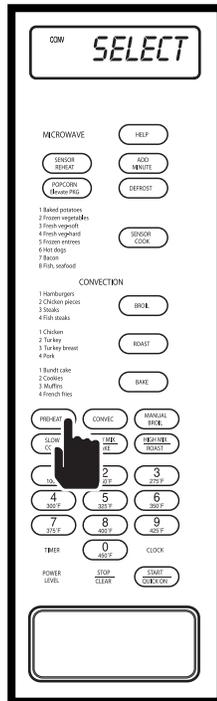

Figure 3-75.
1. Press PREHEAT key, "SELECT - PREHEAT - TEMP" will flash on display. (See Figure 3-75)